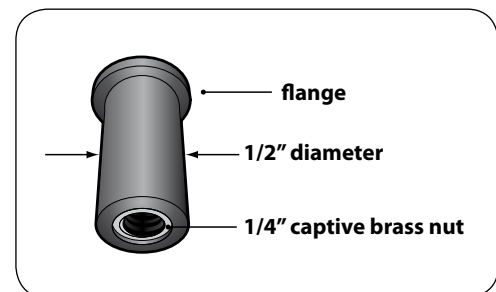

Fig. 7.3. Construction of a Well Nut
6. A Well-Nut is a bushing of tough Neoprene rubber with a flange at the top end and a captive brass nut mounted within the bore at the bottom end (Fig. 7.3). Tightening a conventional machine bolt or screw engages the captive nut thereby causing the bushing to expand outwards. This fastens securely to thinner RV roofs by bulging up and against the bottom surface of the roof (Fig. 7.6). If used in a blind hole in a solid surface material, the rubber will expand outwards to create a secure fastening (Fig. 7.7). The Neoprene and brass resist most environmental conditions.